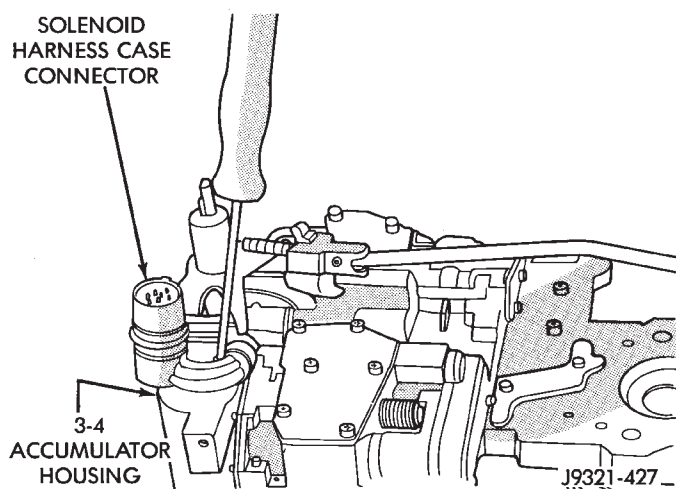

Fig. 44 Solenoid Harness Case Connector Shoulder Bolt
(8) Remove transmission fluid filter.
(9) Remove small shoulder bolt that secures solenoid harness case connector to 3-4 accumulator housing (Fig. 44). **Retain shoulder bolt. Either tape it to harness or thread it back into accumulator housing after connector removal.**